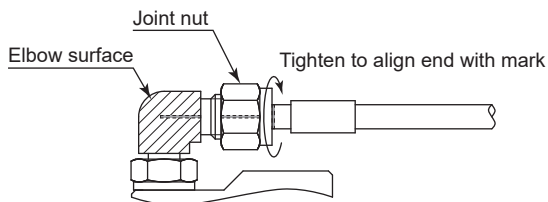

Fig. 16
- (2) Fit an adjustable wrench on the elbow surface (shaded area) of the high-pressure coolant fitting to hold it in place, and use another adjustable wrench to tighten the joint nut to its original tightening position. (Check that the matching lines are aligned and the end of the joint nut is aligned with the mark on the hose). (Fig. 16)